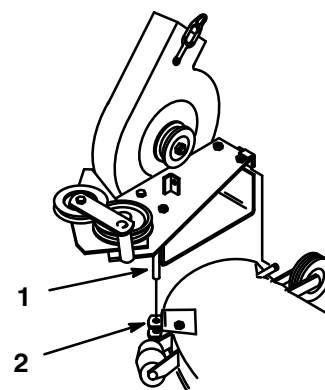

Figure 14
1. Insert pivot pin on blower into pivot support bracket on mower (Fig. 14).